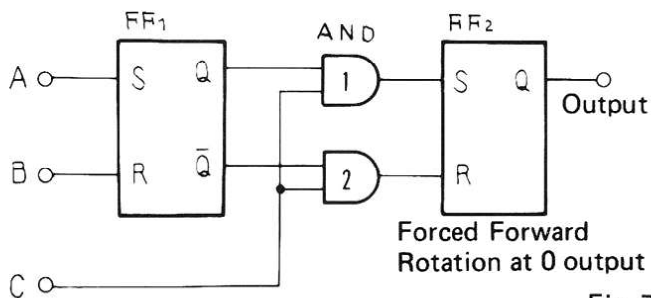

Fig. 7-4
5. This Reverse Rotation Prevention circuit consists of two flip-flops and AND gates See Fig. 7-4.